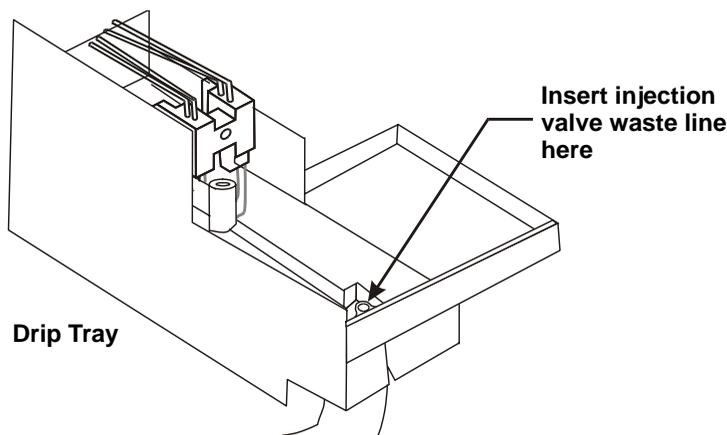

Figure B-8. Injection Valve Waste Line Connection
3. Route the waste line from port 6 on the injection valve through the side slots on each module. Push the end of the line down into the small round opening on the right side of the autosampler compartment drip tray (see Figure B-8). **Do not push the end of the waste line into the large drain tube opening.**
5. Bring the waste line from port 6 on the injection valve to the drip tray in the sampler compartment and push the end of the line down into the small round opening on the right side of the tray (see Figure B-8).